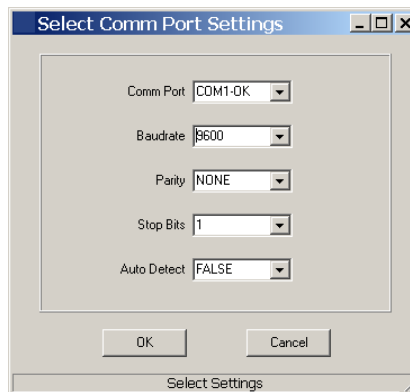

Figure 5
7. Click on Connect to open the Select Comm Port Settings dialog box, as shown in Figure 5. If necessary, set the baud rate to 9600 bps. Set the Comm Port to match the serial port connected to the *Base* - either the hardware port or the USB virtual serial port. Then click OK to activate the serial connection.